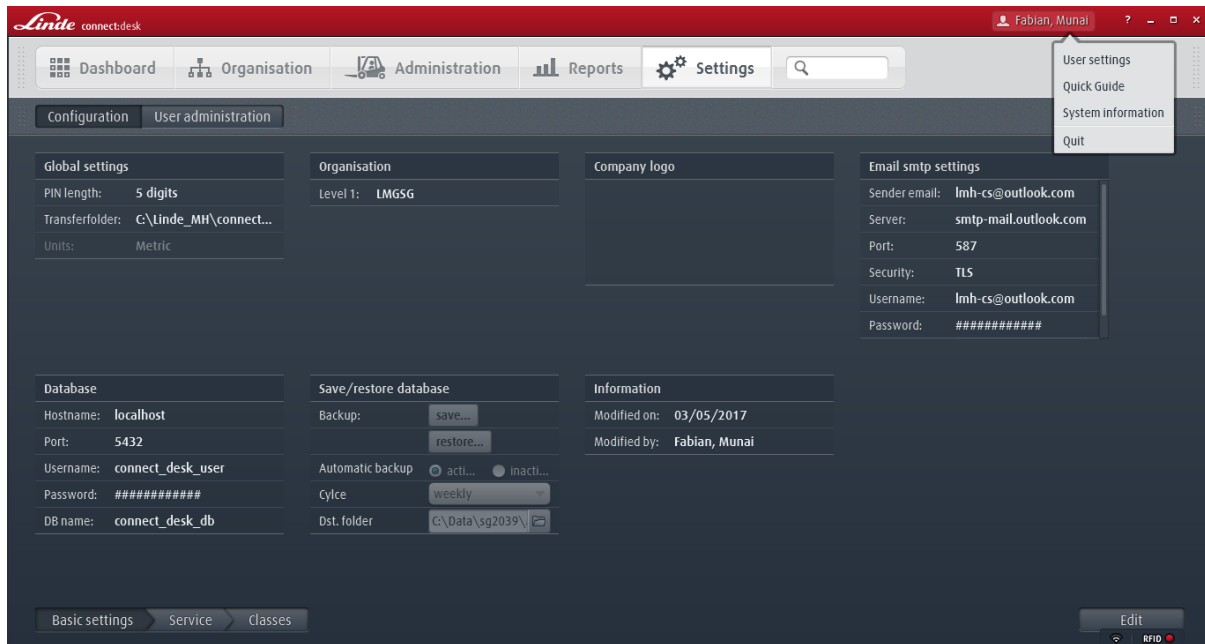

Figure 1-7: User settings
2. Select User settings as shown in Figure 1-7